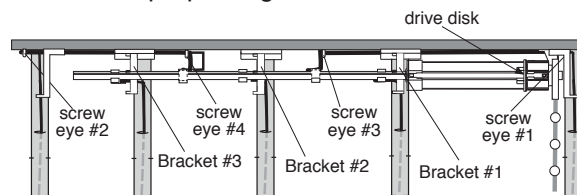

Fig.12 Cut and Attach lift cords
Step 11. Before attaching lift cords (see Fig. 12), slide rod toward clutch until drive disk is all the way against clutch. Maintain drive disk contact with clutch whenever attaching lift cords. Turn the black alignment line on the rod so it points toward dustboard.
Feed one lift cord up from Encased Lift Cord below screw eye #1, through shade stop and through screw eye #1, clutch foot center hole, center hole on bracket foot #1, screw eye #3 and make a knot at the end of the lift cord. Insert the cord into cord slot of a cord clip and knot into knot slot as shown in Fig.13a. **Align edge of cord clip with black alignment line on rod** as shown in Fig.13b with knot side facing away from clutch. Align the other side of the clip slightly past screw eye #3 as shown Fig.12. Push the clip onto the rod as shown in Fig.13b and 13c. For the other edge lift cord, feed up through the row of rings below screw eye #2, through shade stop and screw eye #2, center hole on the base of bracket #3, and screw eye #4. Knot and insert the lift cord into cord clip and put the cord clip onto the rod the same way as described for other edge lift cord.